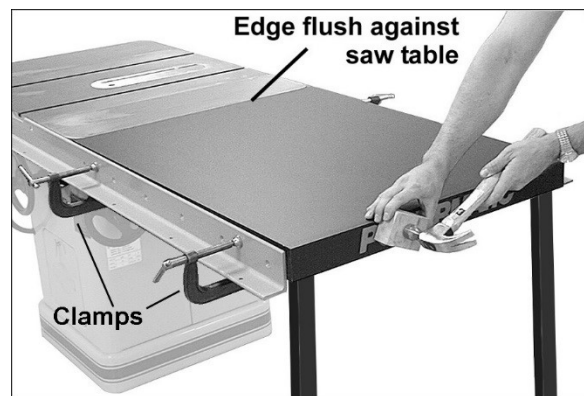
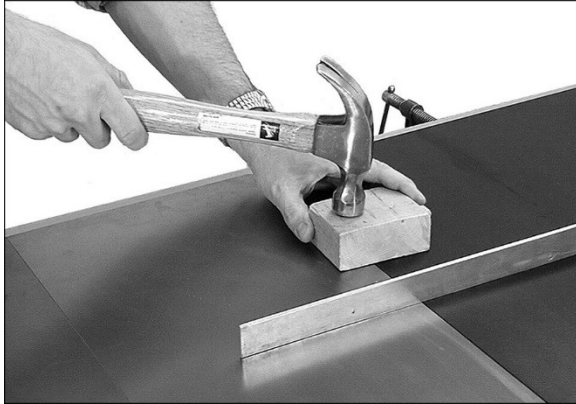

Figure 6-7
Figure 6-8
1. Place extension table between rails and up against saw table, leaving extension table raised just slightly above saw table. Clamp extension table to front and back rails as shown in Figure 6-7. Clamping pressure should be enough to secure table yet allow minor adjustments.
- Use a rubber mallet (or hammer and flat block of wood) to tap extension table up flush against saw table (Figure 6-7). Then tap down extension table at various points along its edge where it meets saw table, until it is level with saw table (Figure 6-8).